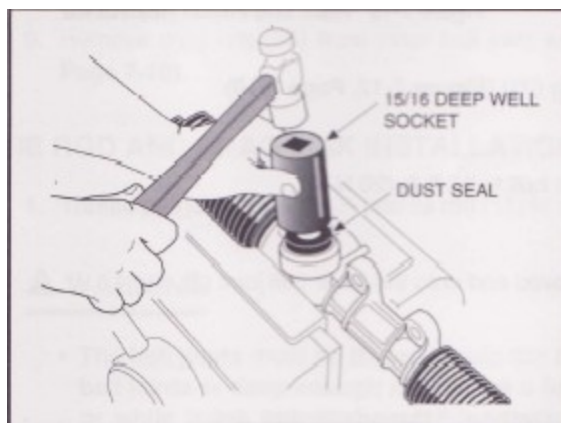

Figure 7-13 Press in Dust Seal
8. Using a socket to apply pressure evenly, press in a new dust seal (Figure 7-13).